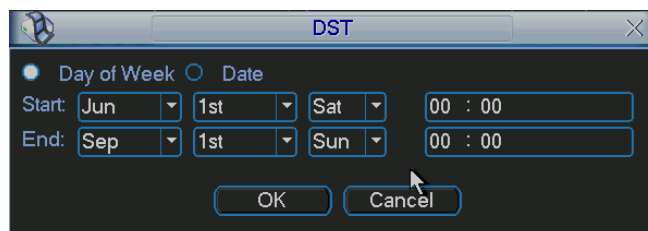
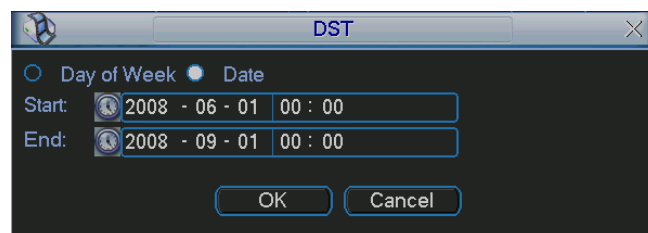

Figure 4-39
Figure 4-40
- DST: Here you can set DST time and date. Please enable DST function and then click set button. You can see an interface is shown as in Figure 4-39. Here you can set start time and end time by setting corresponding week setup. In Figure 4-39, enable date button, you can see an interface is shown as in Figure 4-40. Here you can set start time and end time by setting corresponding date setup.